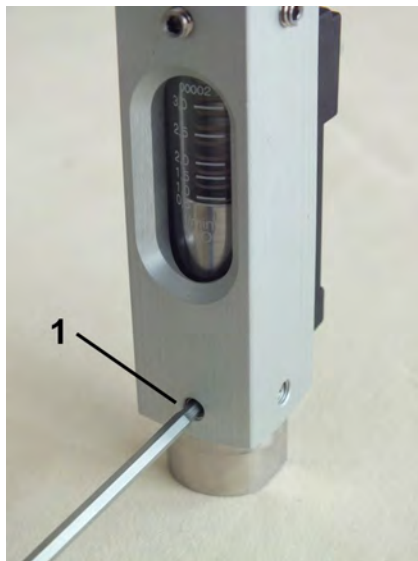

Fig. 46: Secure the process connection (inlet)
9.  Secure the process connection (inlet) with 4 hex socket screws (Fig. 46/1) to the device housing, observing the proper torque ( Chapter 11.1 "Tightening torque" on page 67).